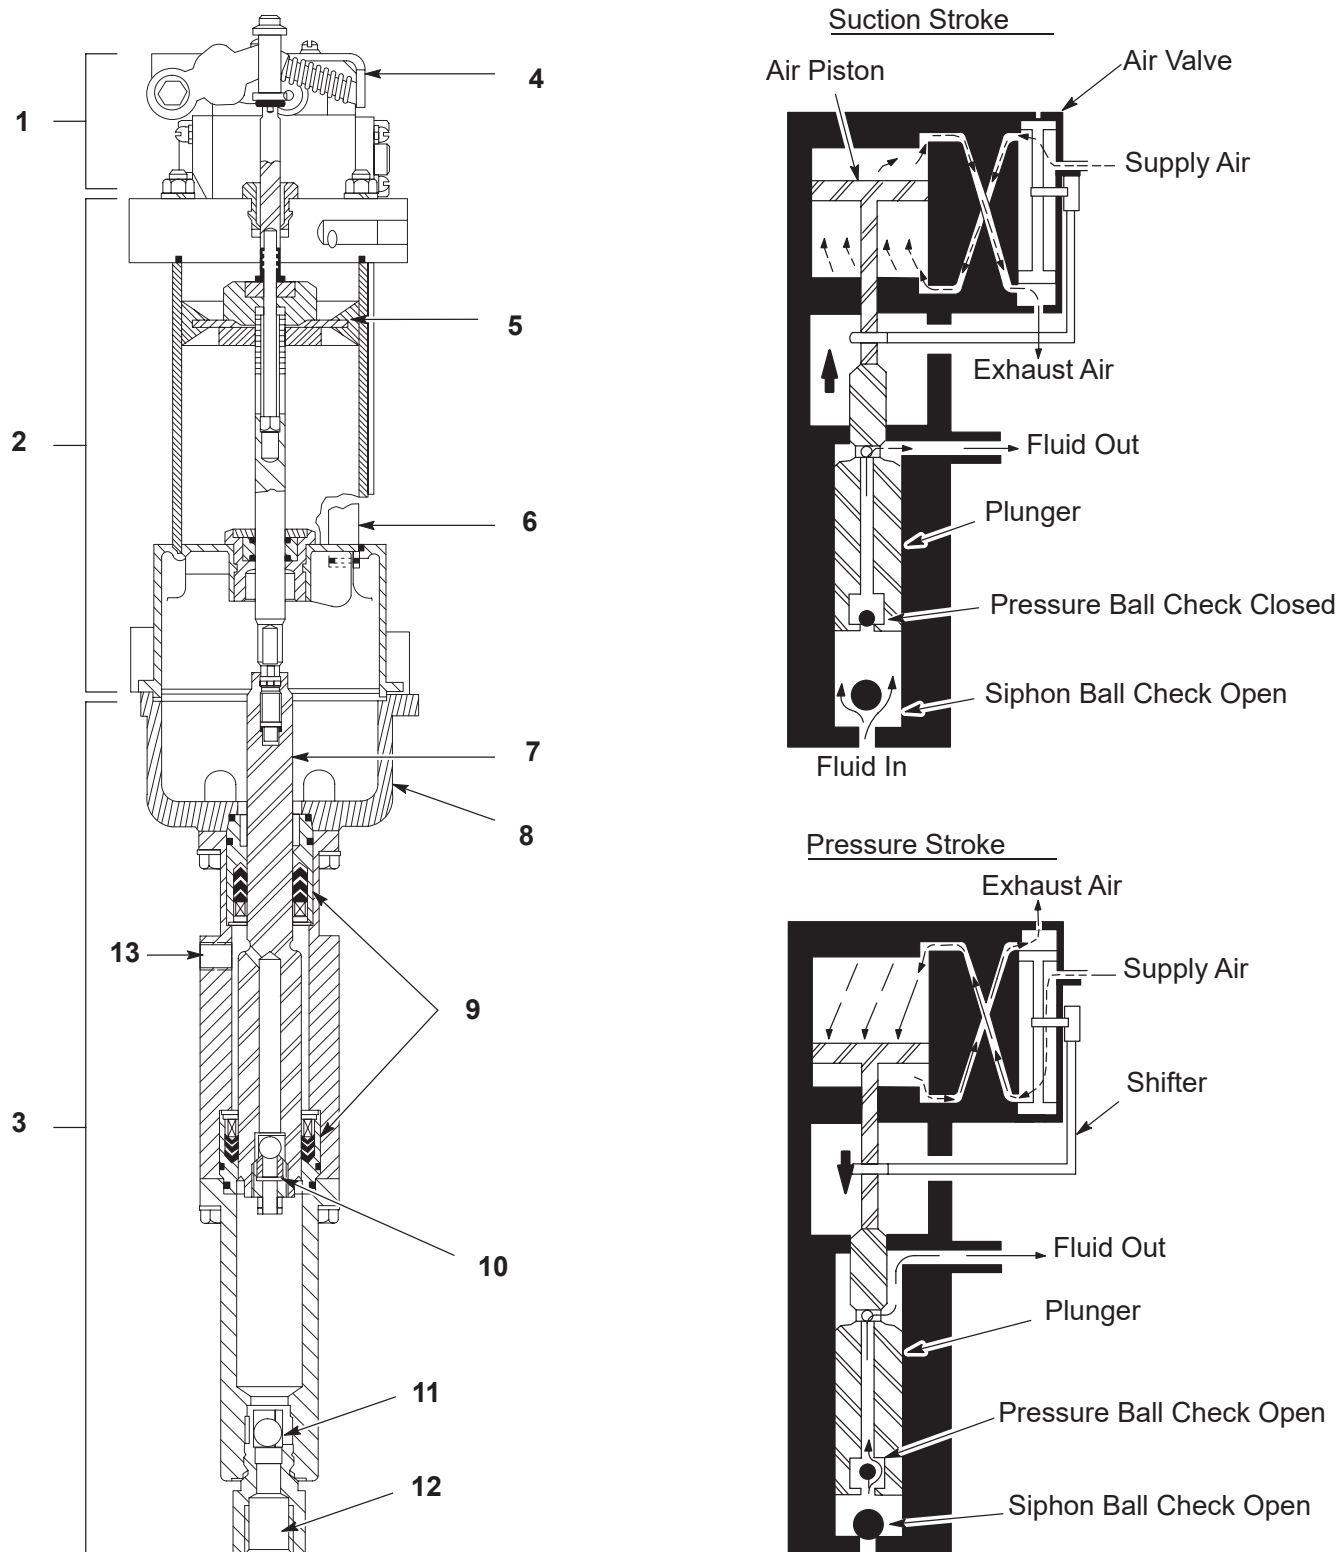

Figure 2-1 Pump Operation (16:1 and 27:1 configuration shown in cutaway)
See Figure 2-1 The main components of the pump are the air valve (1), air motor (2), and hydraulic section (3).